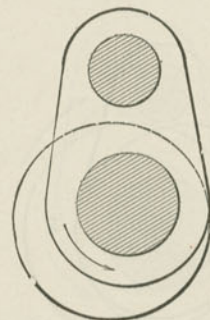

Fig. 180. One Eccentric, Lapped Valve, no rocker.
*A.* As shown in Fig. 180, each one  $90^\circ$  ahead of the crank pin in the direction in which the engine is to run. (The forward eccentric is marked *F*.)
*A.* As shown in Fig. 180, in which the eccentric is more than  $90^\circ$  in advance of the crank pin, in the direction in which the axle is to turn; the excess being enough to enable the steam edge of the valve to be in line with the outside edge of the end port, when the piston is at beginning of stroke.